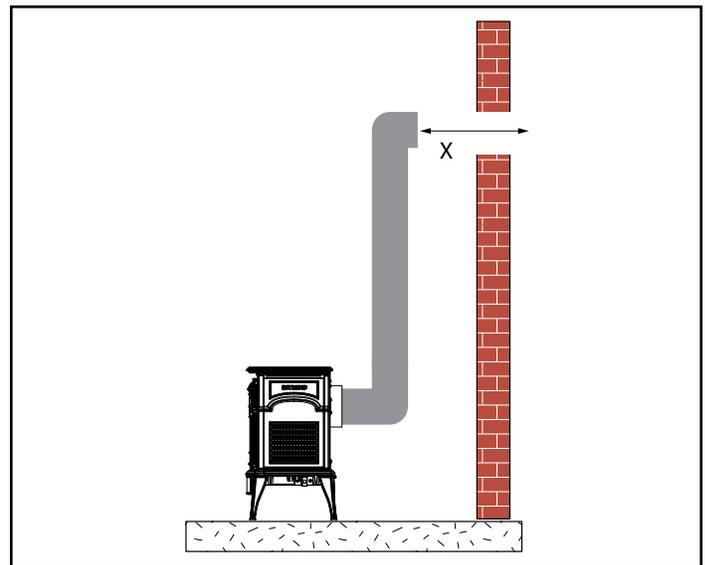

Figure 3.12 - Horizontal Length Requirement
- Measure the horizontal length requirement including a 2" (51 mm) overlap, i.e. from the elbow to the outside wall face plus 2" (51 mm) (or the distance required if installing a second 90° elbow), Figure 3.12.